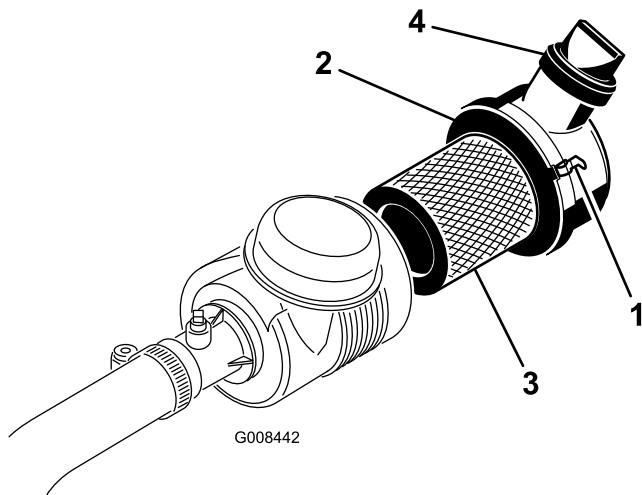

Figure 38
1. Release the latches securing the air cleaner cover to the air cleaner body (Figure 38).
6. Reinstall the cover and secure the latches (Figure 38).